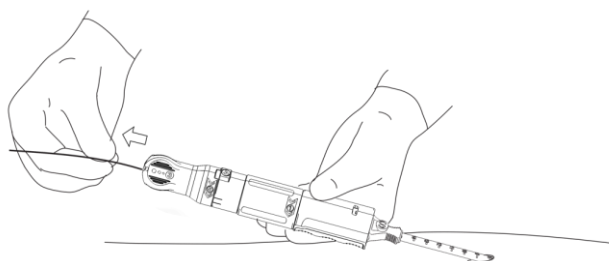

Figure 14. Removal of guidewire.
- a. Locate indicator marked '3' and remove the guidewire completely from the patient and PerQseal+ closure device. Guidewire removal may be done by an assistant. Figure 14.